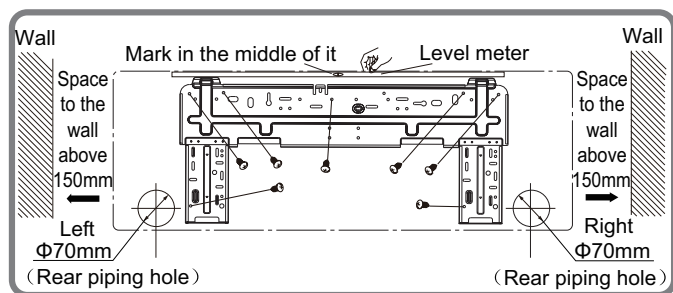

Fig.1
(1) Choose the position of piping hole according to the direction of outlet pipe. The position of piping hole should be a little lower than the wall-mounted frame. (As show in Fig.1)